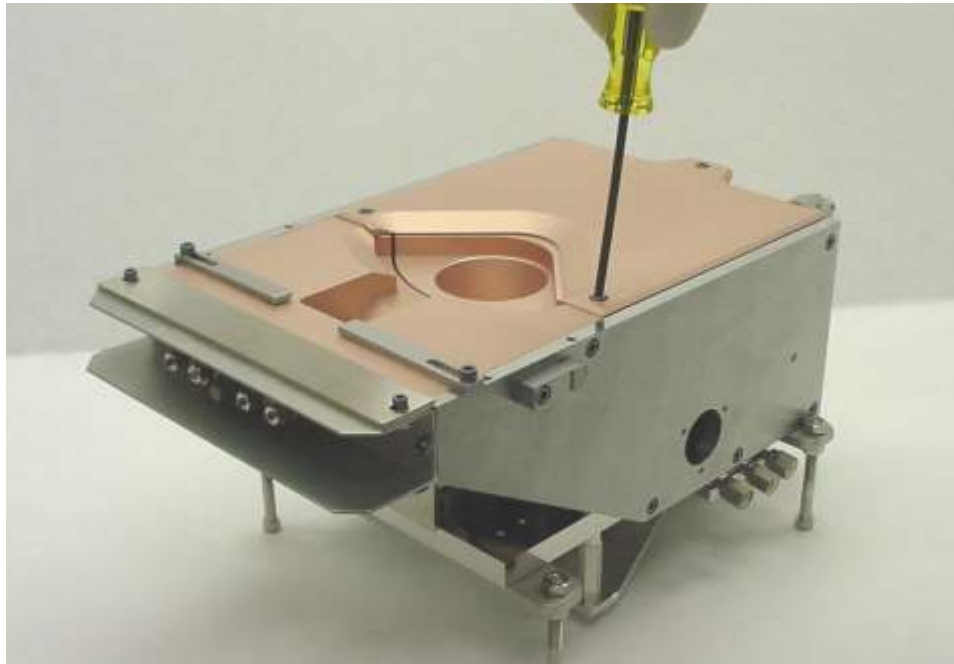

Figure 3-3. Removing the crucible cover
1. Using the Allen wrench provided with the unit, remove the three socket-head screws that secure the crucible cover to the push rods (see Figure 3-3) and remove the cover. To ensure that the connection between the push rods and spider plate are not inadvertently loosened, use a backing wrench on the push rods.